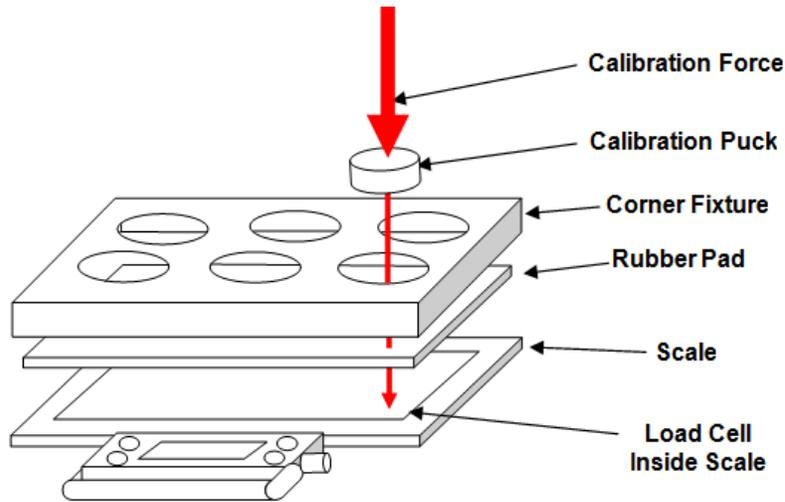

FIGURE 6
6. The screen will display $LL\ 1-0$. Position the rubber pad and corner fixture over the active weighing surface of the scale as referenced in Figure 6. Insert the Calibration Puck in Load Cell position #1 of the fixture. With no weight on the scale except the corner fixture, press the PRINT/ACCUMULATE button.
1. Position the corner fixture and pad on the active weighing surface of the scale referenced in Figure 6.